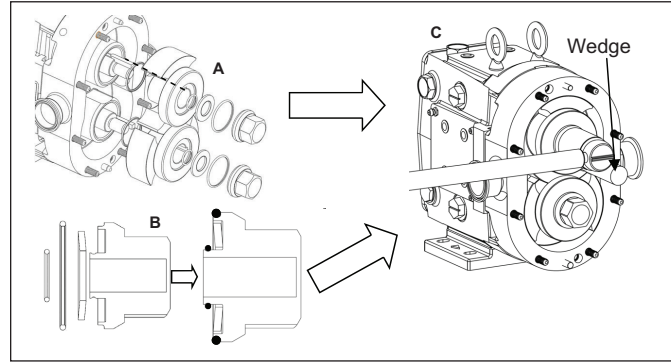

Figure 49. Installing and Securing the Rotor
2. Insert rotor key in the keyway on the shaft. Install a new rotor hub o-ring on the rotor hub and align the rotor keyway to the key in the shaft (Figure 49, A). Slide the rotor on until it seats against the shaft. Install the Bellville washer in the rotor nut and hold it in place using the small retaining o-ring (Figure 49, B). Place one nut on at a time, tightening them down using the appropriate wrench and a non-metallic wedge to hold the rotor in place (Figure 49, C). See Table 7 for required torque values. Repeat with the second rotor.